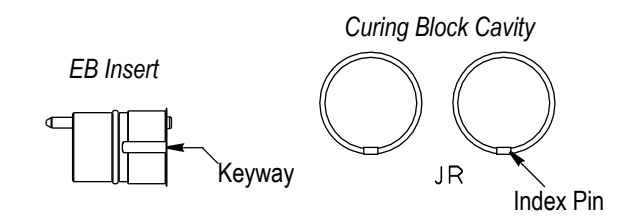

Figure 2
e. Install the curing block assembly into the heat cure oven. Then position the EB insert into the curing block cavity label "Jr". Ensure that the EB insert keyway is aligned with the index pin of the cavity. Refer to Figure 2.
d. Slide the components shown in Figure 2 onto the protective tubing, allowing 23±1 mm at the end of the tubing for stripping. Make sure to orient each component as shown.